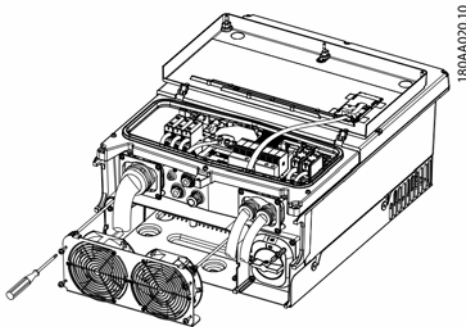

Figure 1.3
4. The fans are located on the bottom of the inverter. Loosen the four screws (TX 20) securing the fan unit. See figure 1.3.